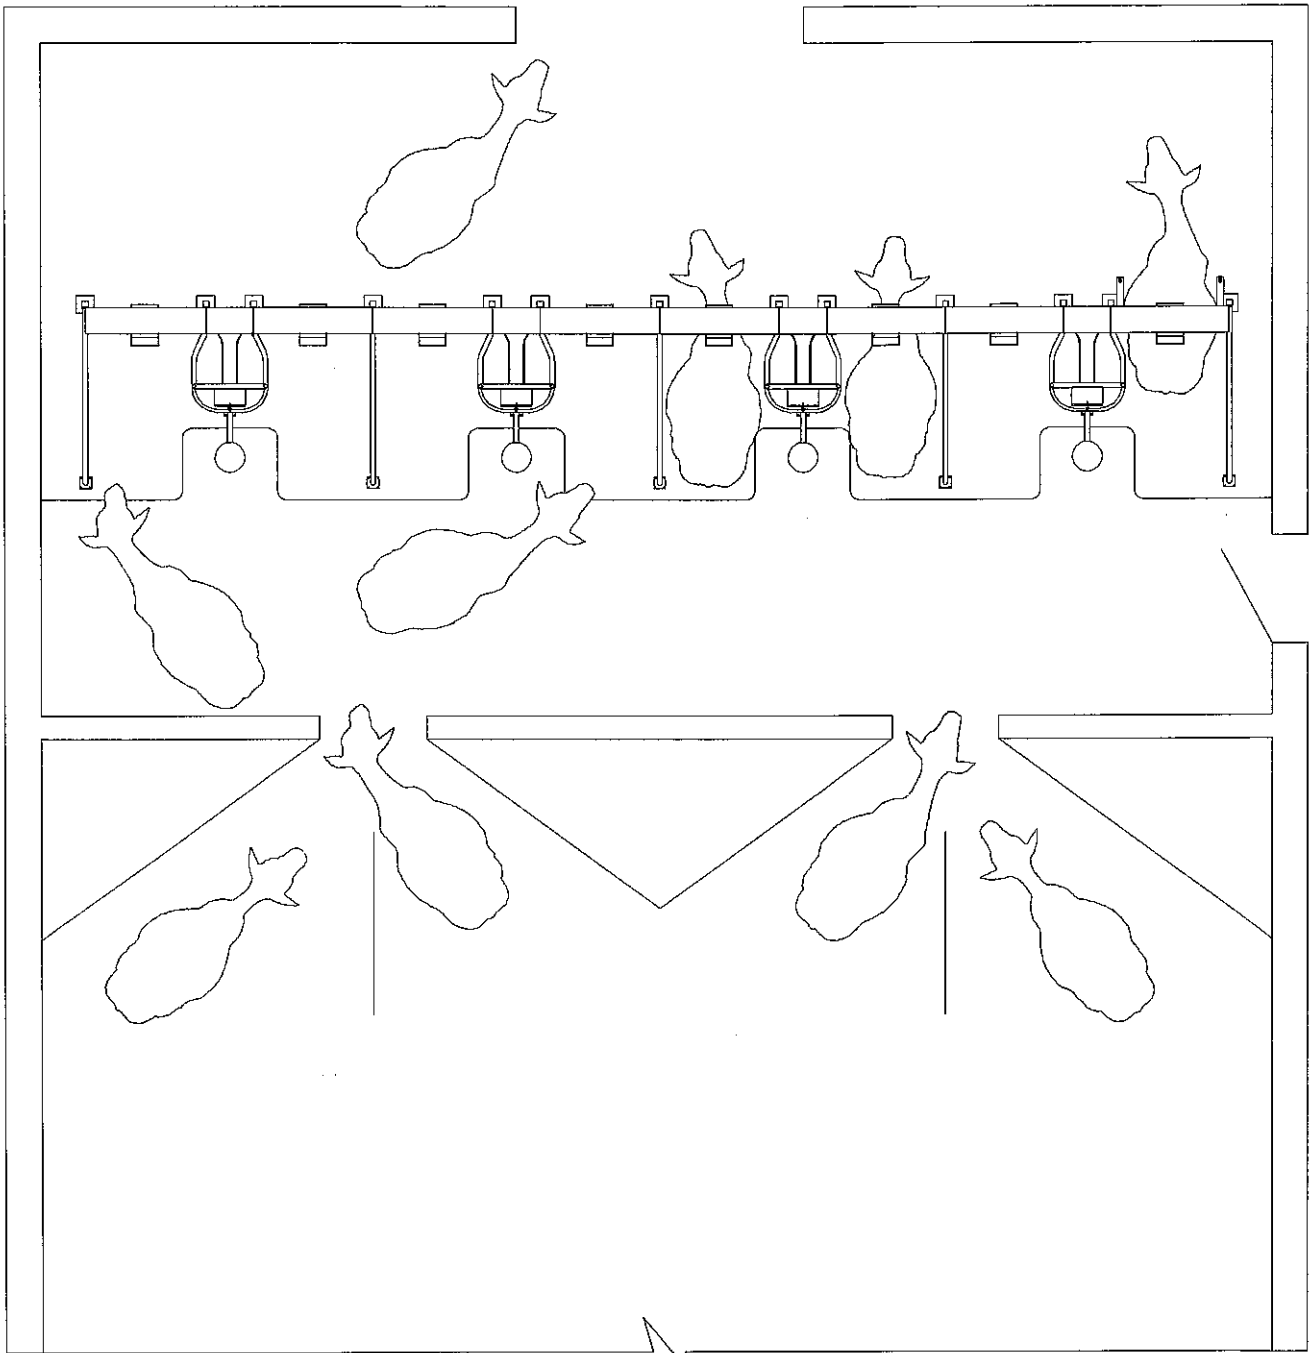

Figure 6.
We recommend that the parlor be cleaned after each milking session. While there shouldn't be much manure in the parlor after milking you should plan for a way to handle the small amount there will be. Also, there should be a way to handle water used to wash down the concrete and stalls. All cement surfaces should be sloped toward any drain or gutter so that gravity moves the water to its destination. Figure 6 shows several options that should adequately deal with handling this waste.
**Example 1:** Figure 6 shows eight stalls configured in a single row installed across the width of the barn. As shown in this example there should be multiple entrances from the holding area to make it easier for cows to find an open stall.